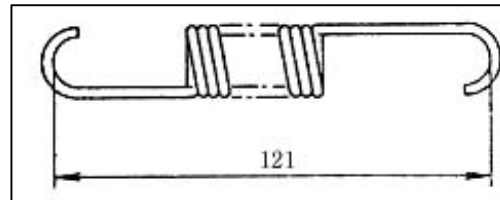

Fig. 5-16
- Measure the free length and installation load of the adjuster spring (Figure 5-16);